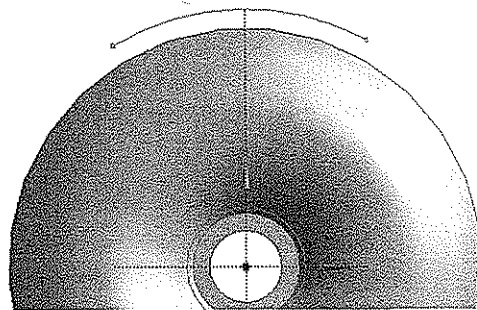

Figure 5-11 The arc created using the **Arc by Center** tool
4. Choose the **Arc by Center** tool from the **Draw** toolbox. Next, click to specify the center of arc at the origin, and draw the arc, as shown in Figure 5-11.